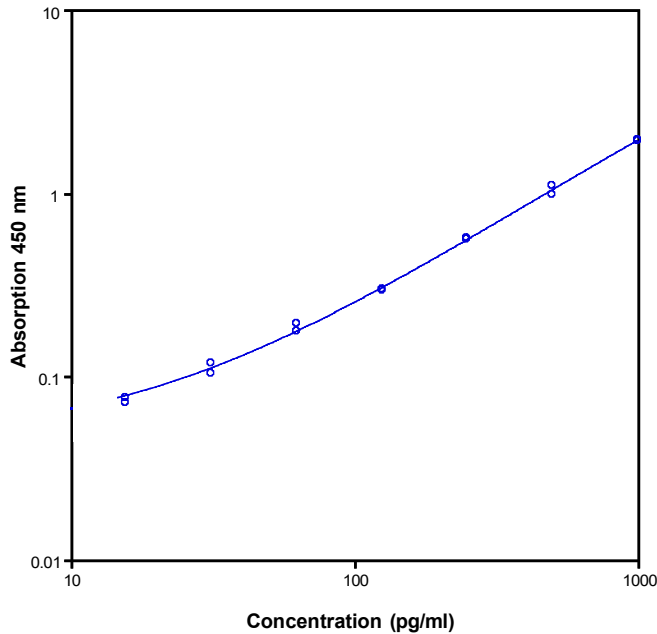

Fig. 8 Representative standard curve for human Fas/TNFRSF6/CD95 ELISA. Human Fas/TNFRSF6/CD95 was diluted in serial 2-fold steps in Sample Diluent.
- A representative standard curve is shown in Figure 8.